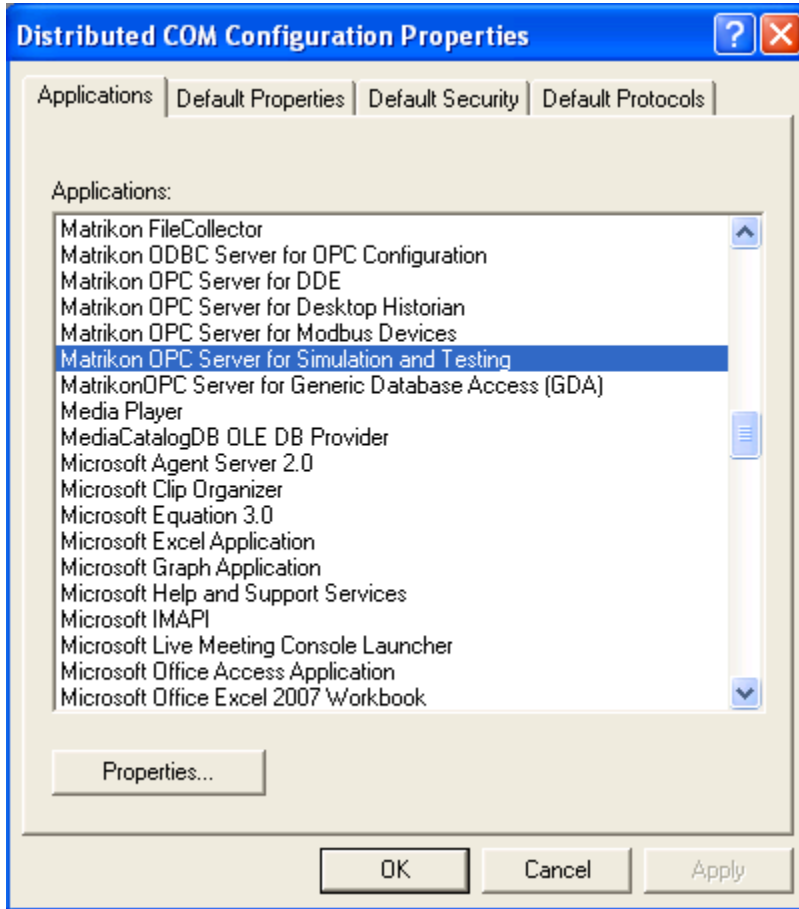

Figure 41 - Distributed COM Configuration Properties Window
3. The **Distributed COM Configuration Properties** window (Figure 41) appears.